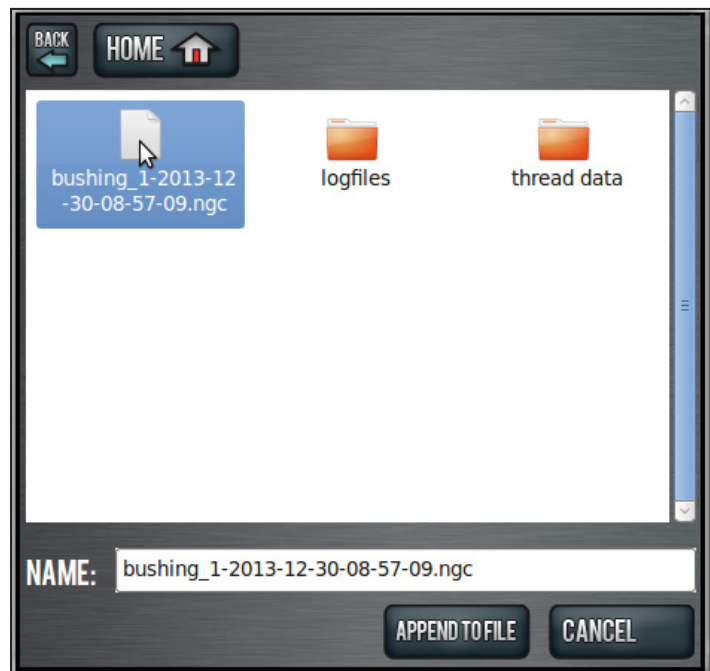
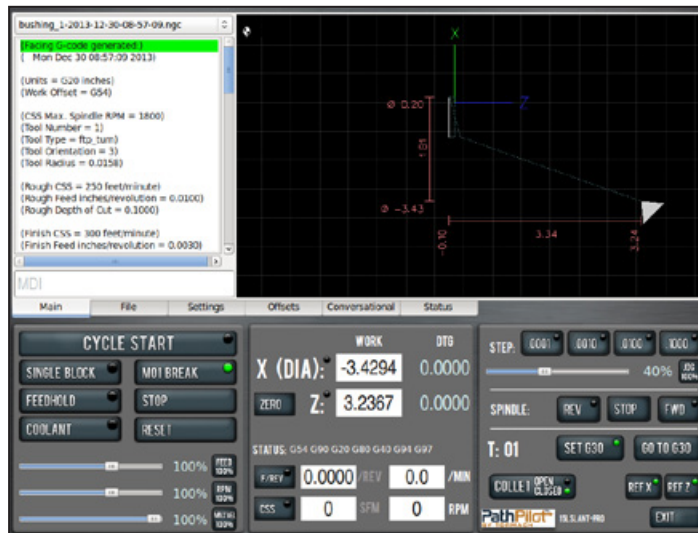

Figure 4.20
Figure 4.21
2. Again note that if you are using front tool post tooling, all X (diameter) values must be written as negative numbers. After you have entered the values, click *Append to File*. A file chooser dialog box opens that allows you to select the file to which you want to add the OD Turn G-code (see **Figure 4.20**).
- Click on the name of the file you created when you made the facing G-code, then click *Append to File* (see **Figure 4.20**). The changes to your file are loaded into the control, and you should see a tool path that looks something like **Figure 4.21**.